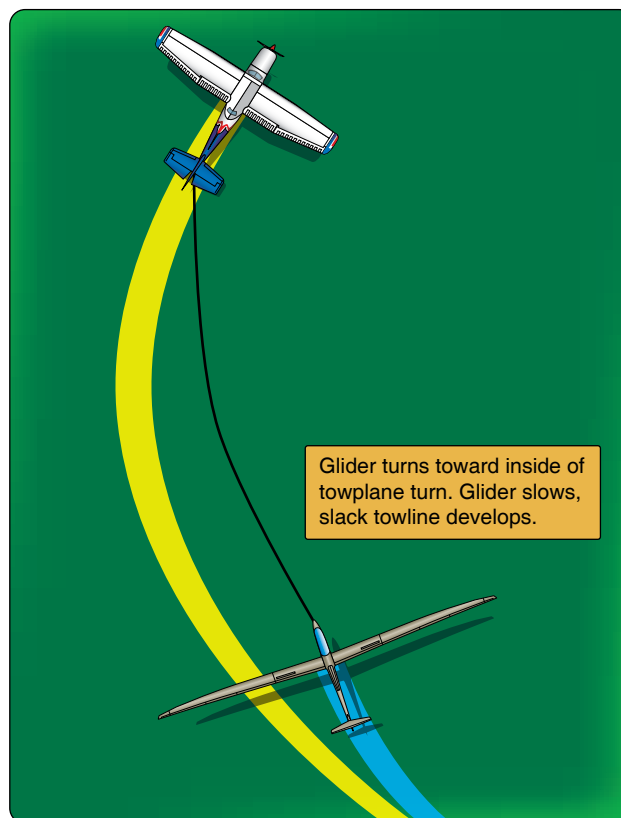

Figure 8-7. Glider bank steeper than that of towplane, causing slack in tow line.
- Glider turns inside the towplane turn radius [Figure 8-7]